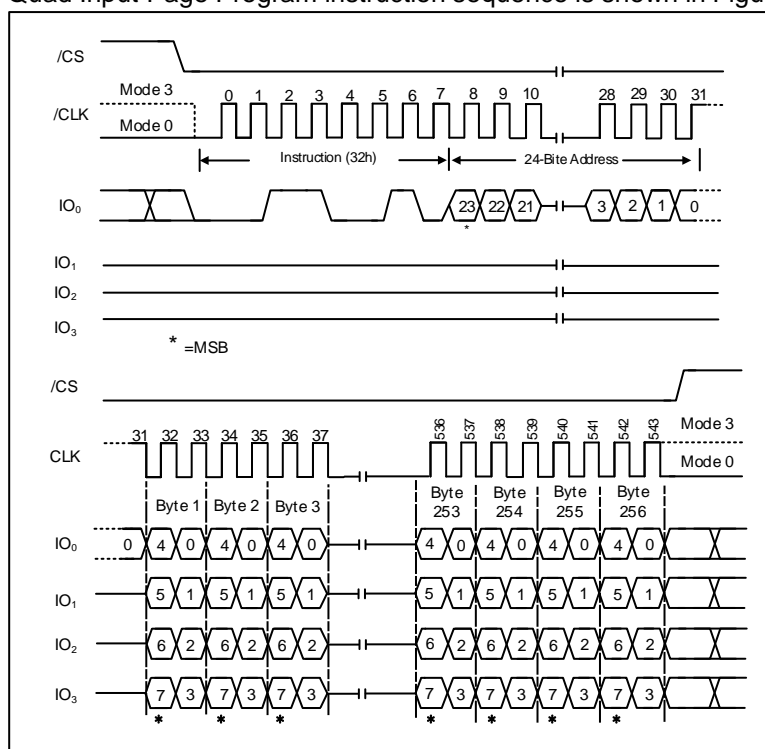

Figure 19. Quad Input Page Program Instruction (SPI Mode only)
To use Quad Input Page Program the Quad Enable (QE) bit in Status Register-2 must be set to 1. A Write Enable instruction must be executed before the device will accept the Quad Input Page Program instruction (Status Register-1, WEL=1). The instruction is initiated by driving the /CS pin low then shifting the instruction code "32h" followed by a 24-bit address (A23-A0) and at least one data byte, into the IO pins. The /CS pin must be held low for the entire length of the instruction while data is being sent to the device. All other functions of Quad Input Page Program are identical to standard Page Program. The Quad Input Page Program instruction sequence is shown in Figure 19.